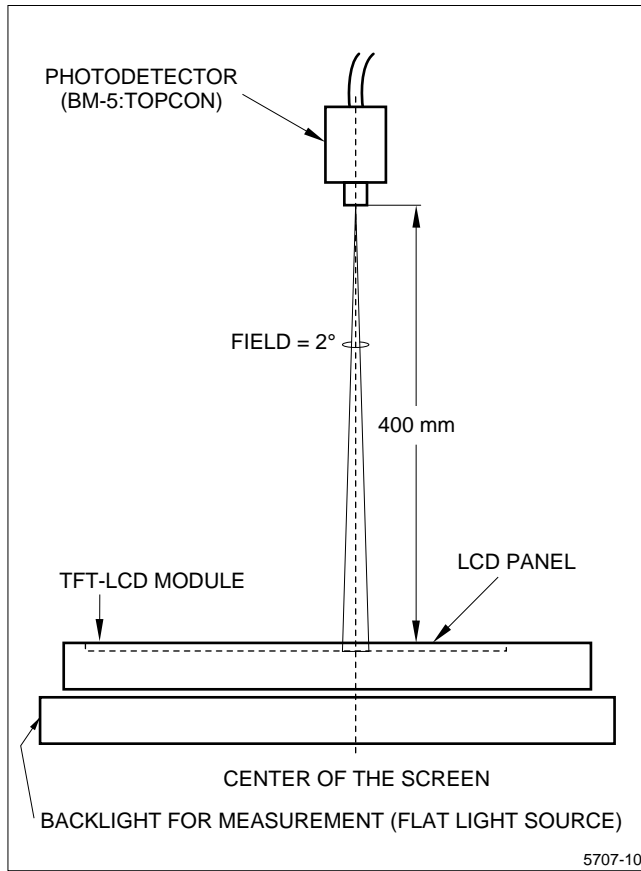

Figure 8. Optical Characteristics Measurement Method
1. Make the measurement 15-20 minutes after the module has been lit at the proper rating. Measure the optical characteristics in a dark room or equivalent state with the method shown in Figure 8.